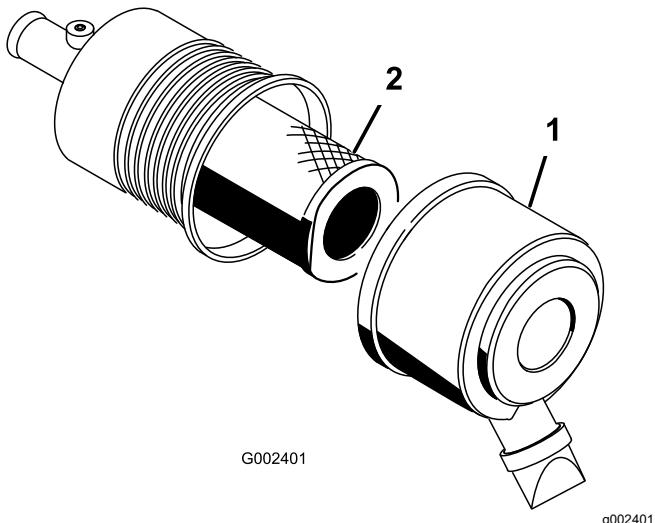

Figure 52
2. Release the latches securing the air-cleaner cover to the air-cleaner body (Figure 52).
3. Remove the cover from the air-cleaner body (Figure 52).
5. Remove and replace the filter (Figure 52).